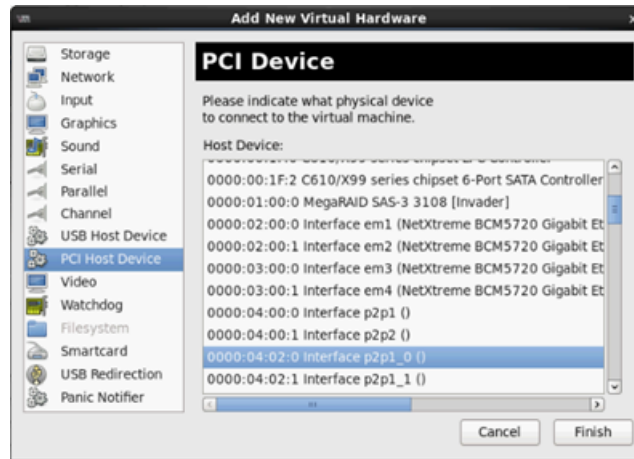

Figure 8-14. Add New Virtual Hardware
- b. In the left pane of the Add New Virtual Hardware dialog box (Figure 8-14), click **PCI Host Device**.